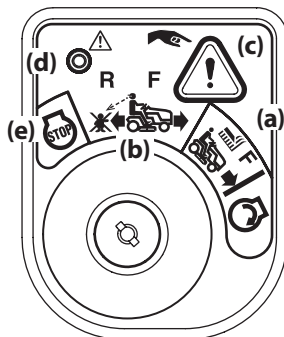

Figure 3-2
2. Turn the key from the NORMAL MOWING  (a) position to the REVERSE CAUTION MODE  (b) position of the ignition module. See Figure 3-2.
3. Press the REVERSE PUSH BUTTON  (c) at the top, right corner of the ignition module. The red indicator light (d) at the top, left corner of the ignition module will be ON while activated. See Figure 3-2.